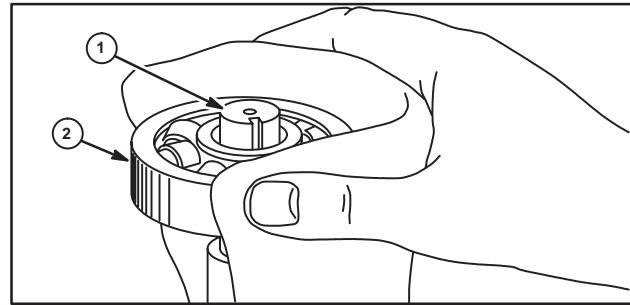

Fig. 12
- Grasp bearing (2) with the shield down and slip on the crankshaft bearing journal (1), Fig. 12.